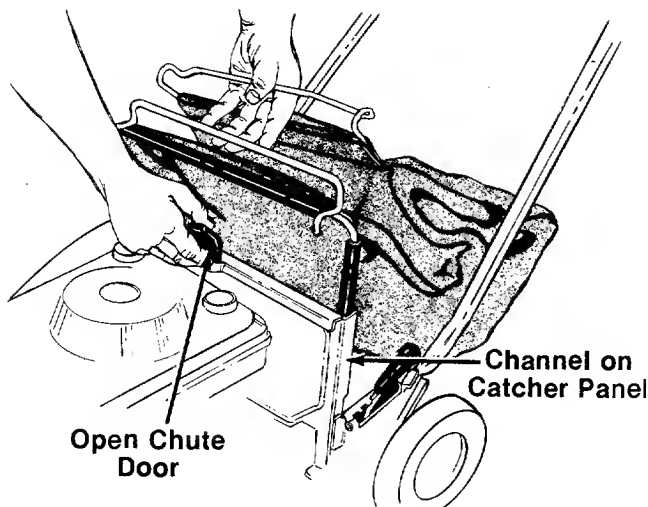

FIGURE 16.
1. Hold the chute door on the catcher panel open as shown in figure 16.